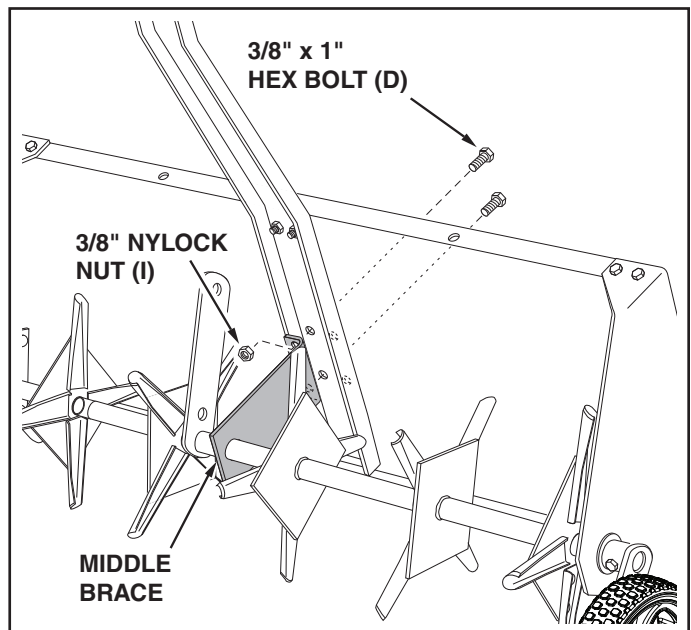

FIGURE 10
14. Tip the aerator back and rotate the middle brace up against the tongue, aligning it on the side of the tongue that is next to the slot in the tray. Fasten the middle brace to the bottom of the tongue using two 3/8" x 1" hex bolts (D) and 3/8" nylock nuts (I). **Do not tighten until final step.** See figure 10.